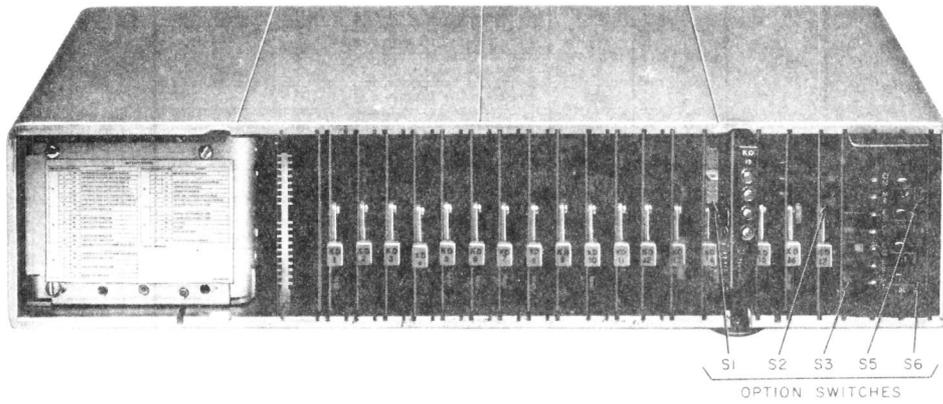

Fig. 3—Data Set 209A-L1 With Faceplate Removed—Front View
**2.17** DS 209A-L1 is provided with a number of features which may be requested as options by the customer. A detailed description of these options is given in Sections 592-032-150 and 592-032-200. All options, with the exception of the ground option, are added and removed by switches shown in Fig. 3 and Table D. Options installed in the data set should be identified on the option label which is attached to the front of the power unit.